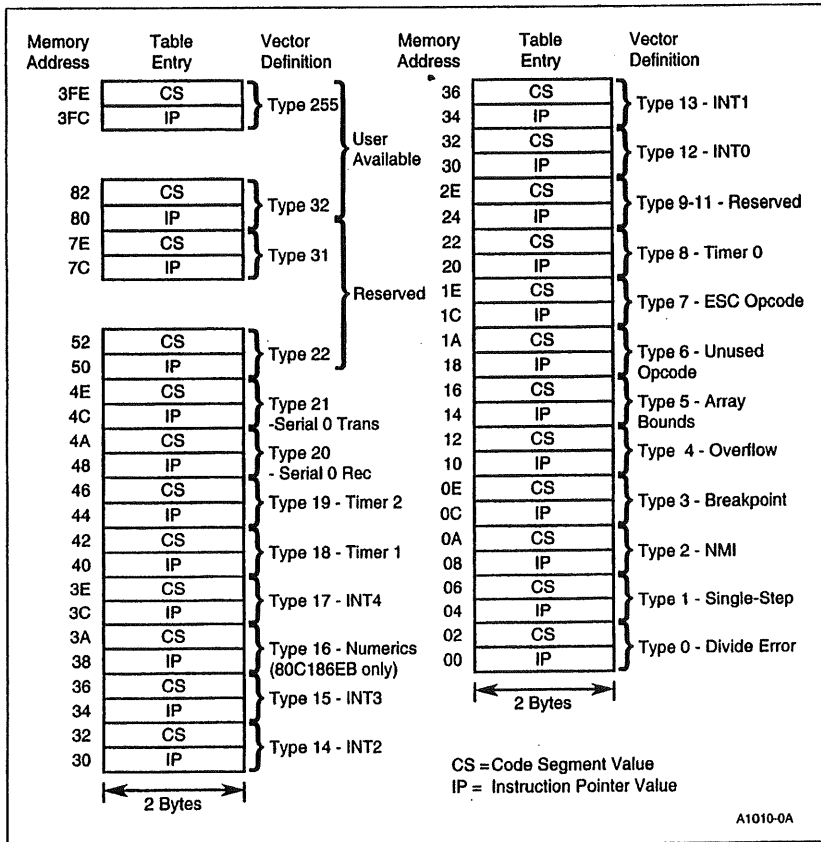

Figure 2-25. Interrupt Vector Table
The 80C186 Modular Core can service up to 256 different interrupts and exceptions. A 256-entry Interrupt Vector Table (Figure 2-25) contains the pointers to interrupt service routines. Each entry consists of four bytes, which contain the Code Segment (CS) and Instruction Pointer (IP) of the first instruction in the interrupt service routine. Each interrupt or exception is given a type number, 0 through 255, corresponding to its position in the Interrupt Vector Table. Note that interrupt types 0–31 are reserved for Intel and should not be used by an application program.